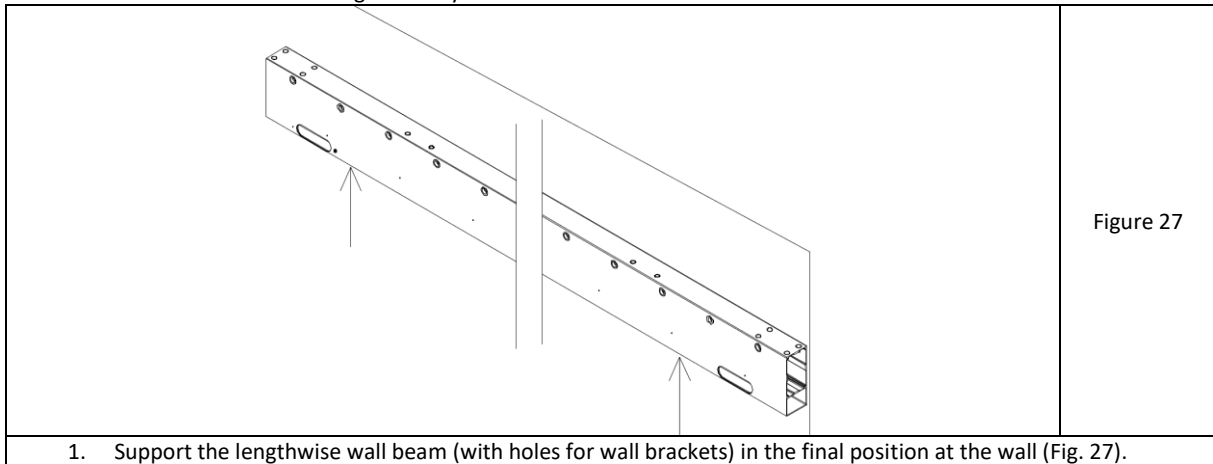

Figure 27
1. Support the lengthwise wall beam (with holes for wall brackets) in the final position at the wall (Fig. 27).